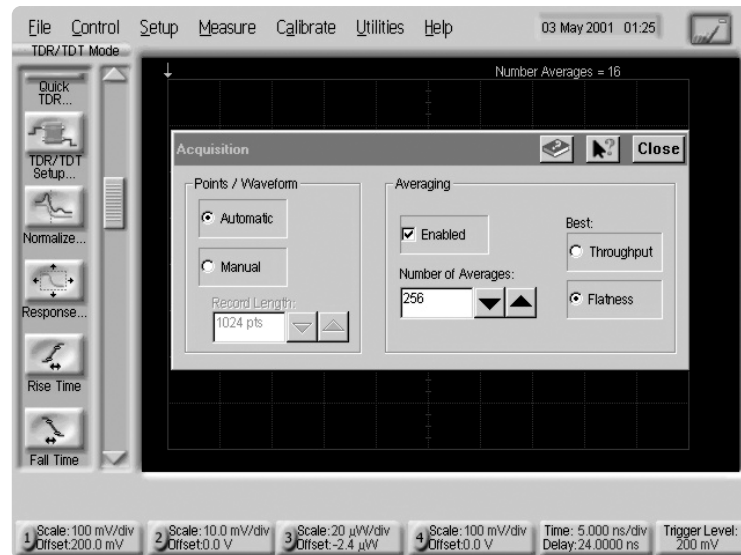

Figure 4. Acquisition dialog box for adjusting the number of averages.
3. Select <Setup> from the 86100A menu and choose <Acquisition>. “Points/Waveform” should be on “Automatic” which is set at 1024 pts. Check the box next to “Enabled” and set the “Number of Averages” to a value of 256. “Best Flatness” should also be selected. Figure 4 illustrates this display.